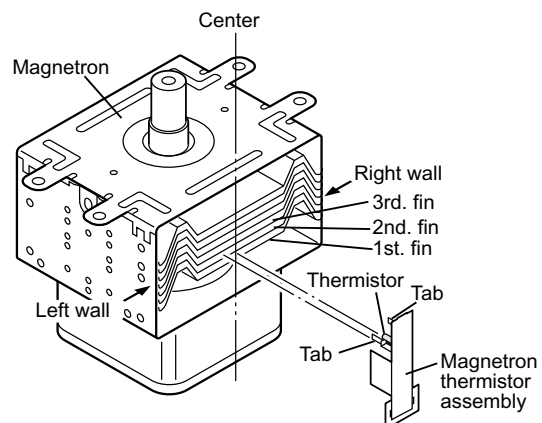

Figure C-1. Magnetron thermistor installation
1. Insert the magnetron thermistor assembly to the magnetron as shown in Figure C-1 and push it until the thermistor assembly stops.